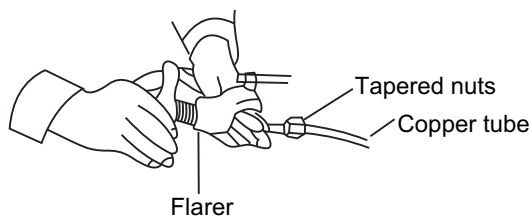

Figure 19
- (3) Put the tube flarer on the copper tube.
- (4) Flare the copper tube (Figure 19)